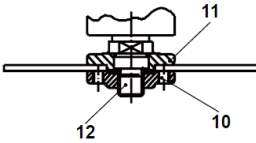

Fig. 14
6. Place the locking flange (10) on the spindle (12). Depending on the kind of wheel, the flange must be placed as follows:
- Thin wheels (< 4 mm) with flat centre: place the locking flange (10) with protruding side away from the wheel (Fig. 14).